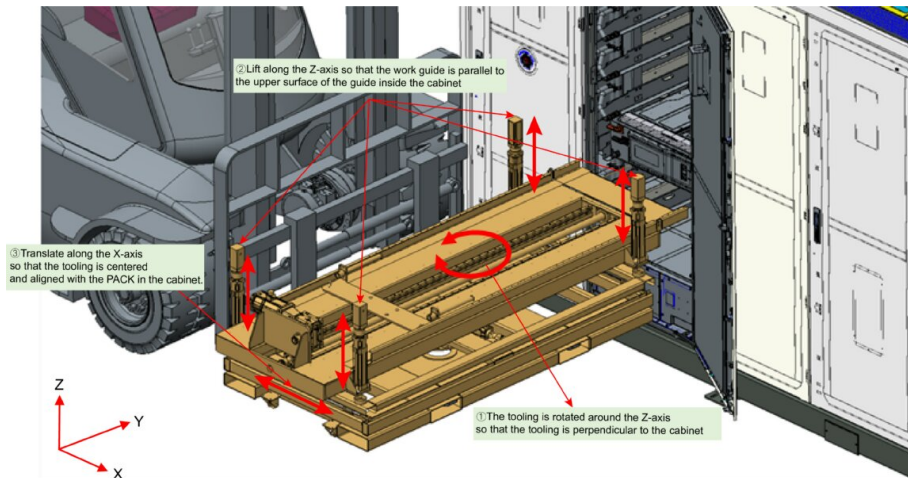

figure 5-16 Maintenance tooling adjustment schematic
- 2 Using the Z-axis fine-tuning hydraulic rod in "figure 5-16 Maintenance tooling adjustment schematic", fine-tune the height of the four corners of the tooling, so that the tooling guide rail and the PACK rail to be maintained at the same level (leveling action for automated adjustment, such as automated precision is insufficient, can be manually adjusted).
Using the X-axis fine-tuning hydraulic lever in "figure 5-16 Maintenance tooling adjustment schematic", fine-tune the left and right offset travel of the tooling so that the tooling screw is centered and aligned with the PACK to be maintained.